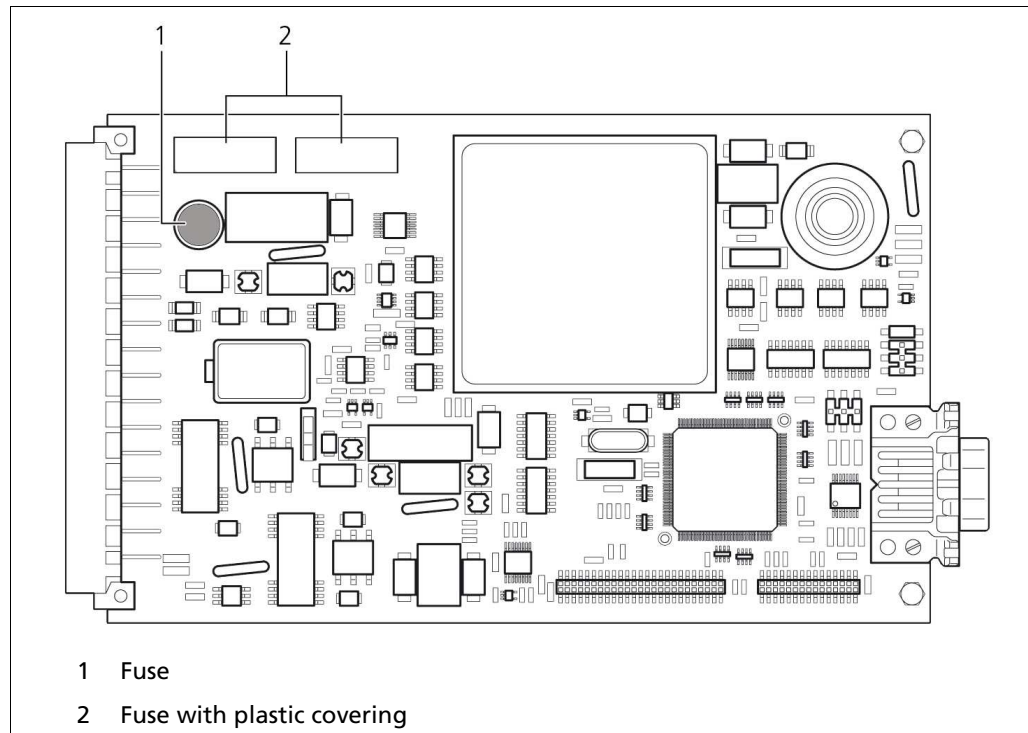

Fig. 81 Basic module fuses
6. Pull carefully on the fuse (Fig. 81, Pos. 1) until the top part is fully removed.
7. Remove the plastic covering from the fuses (Fig. 81, Pos. 2).